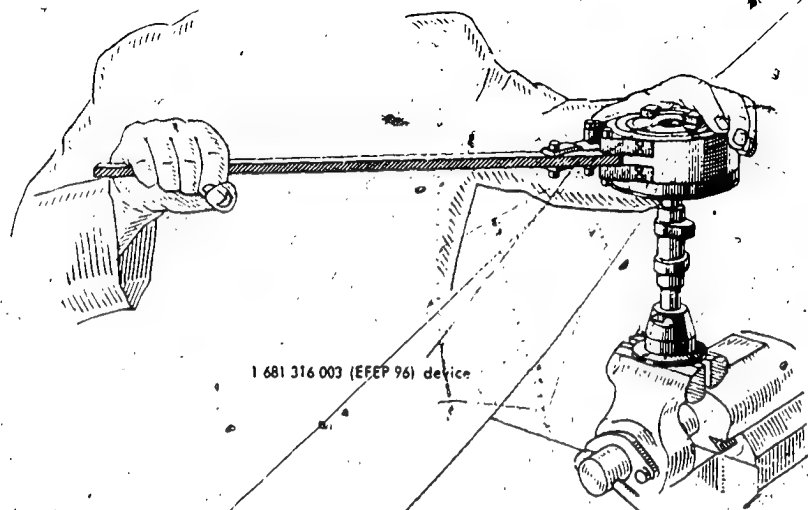

Fig. 13 Tighten cover with 1 681 316 003 (EFEP 96) device
10. Place packing ring on coupling flange, grease thread of cover and screw on to coupling flange, tightening with 1 681 316 003 (EFEP 96) device (Fig. 13).